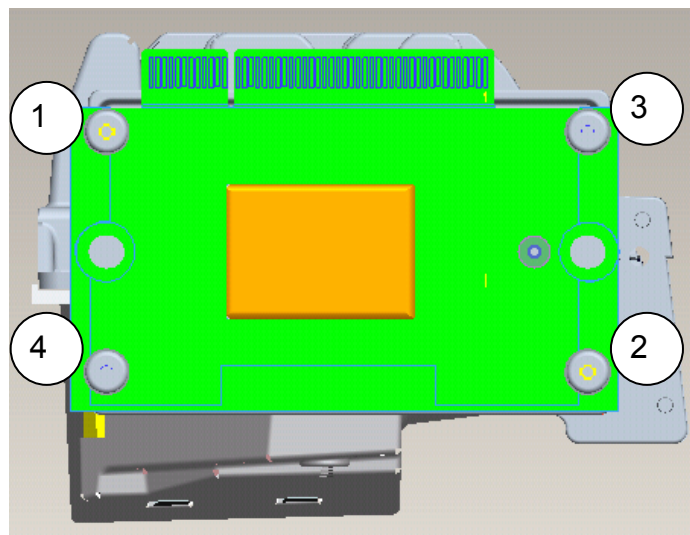

Fig. 10-3
10.3 Fasten shoulder screw Sequence as blow (Fig. 10-3)